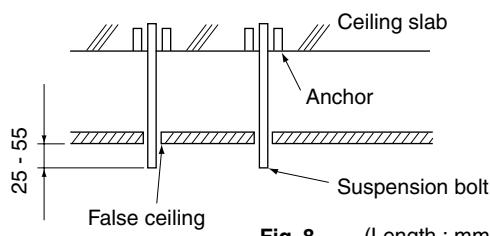

Fig. 8 (Length : mm)
- Adjust the distance from the unit to the ceiling slab beforehand. (Refer to Fig. 8)